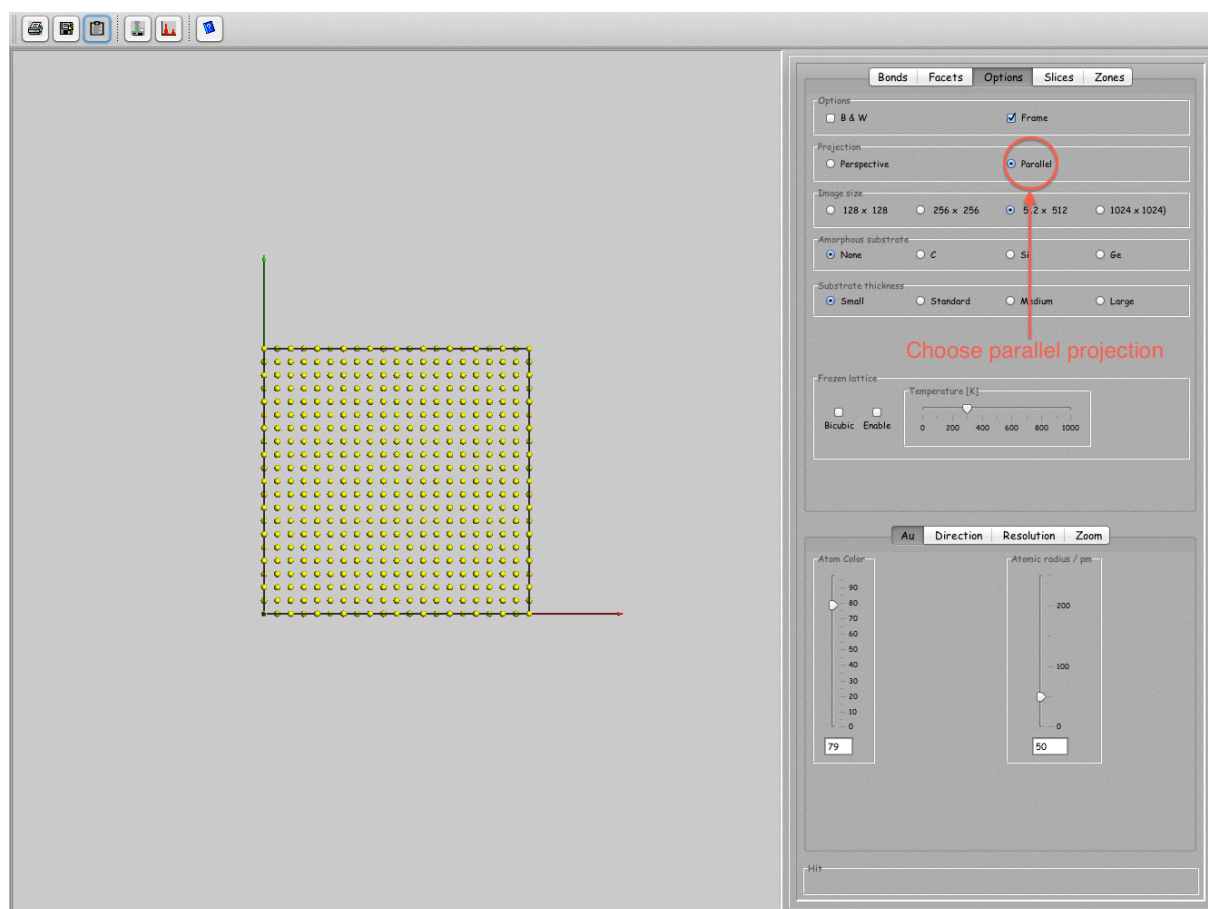

Figure 5: Generate a parallel projection (depending on the number of atoms it may necessary to *Zoom* the model to observe the parallel projection).
1. Select the *Options* tab and select the *Parallel* to generate a parallel projection (Fig. 5).
### 3.1 Generating a parallel projection (Figure 5)